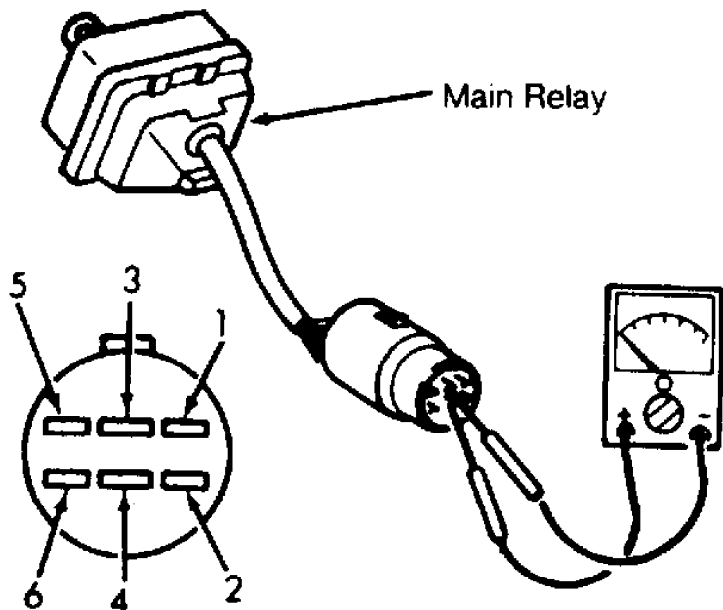

Fig. 4: Testing Main Relay
- 2) If no sound is heard, unplug relay. Apply 12 volts to terminal "A" and ground terminal "B". See Fig. 4.